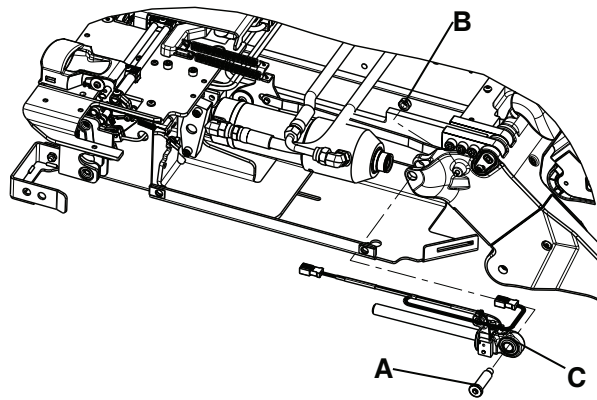

Figure 25 – Hydraulic cylinder rod end assembly
4. Using a 1/4" hex wrench and a 1/2" combination wrench, remove the end cap cylinder pin (A) and nut (B) (Figure 25).
6. While lifting up on the cylinder, pull the hydraulic cylinder rod end assembly (C) out and discard (Figure 25).